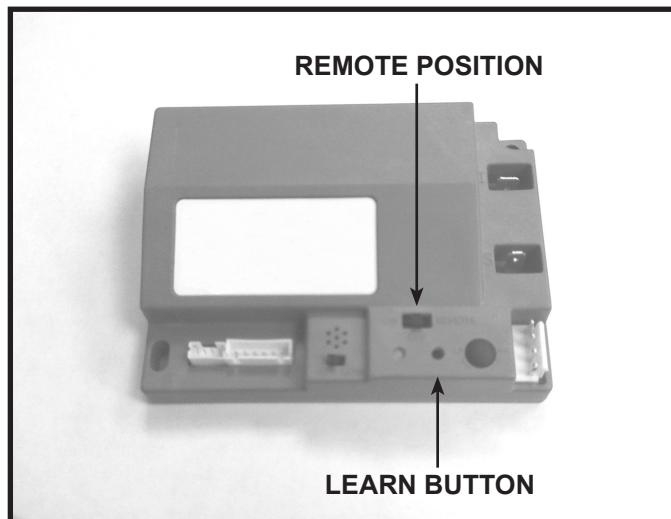

Figure 10.9. Programming RC300AU
- Verify the ON/OFF/REMOTE switch is in the REMOTE position. Green LED light will blink three times and wall switch will beep once 5 seconds later when ready. See Figure 10.9.
- Using a small item (such as a paper clip) press and release the LEARN button located near the ON/OFF/REMOTE switch. See Figure 10.9.